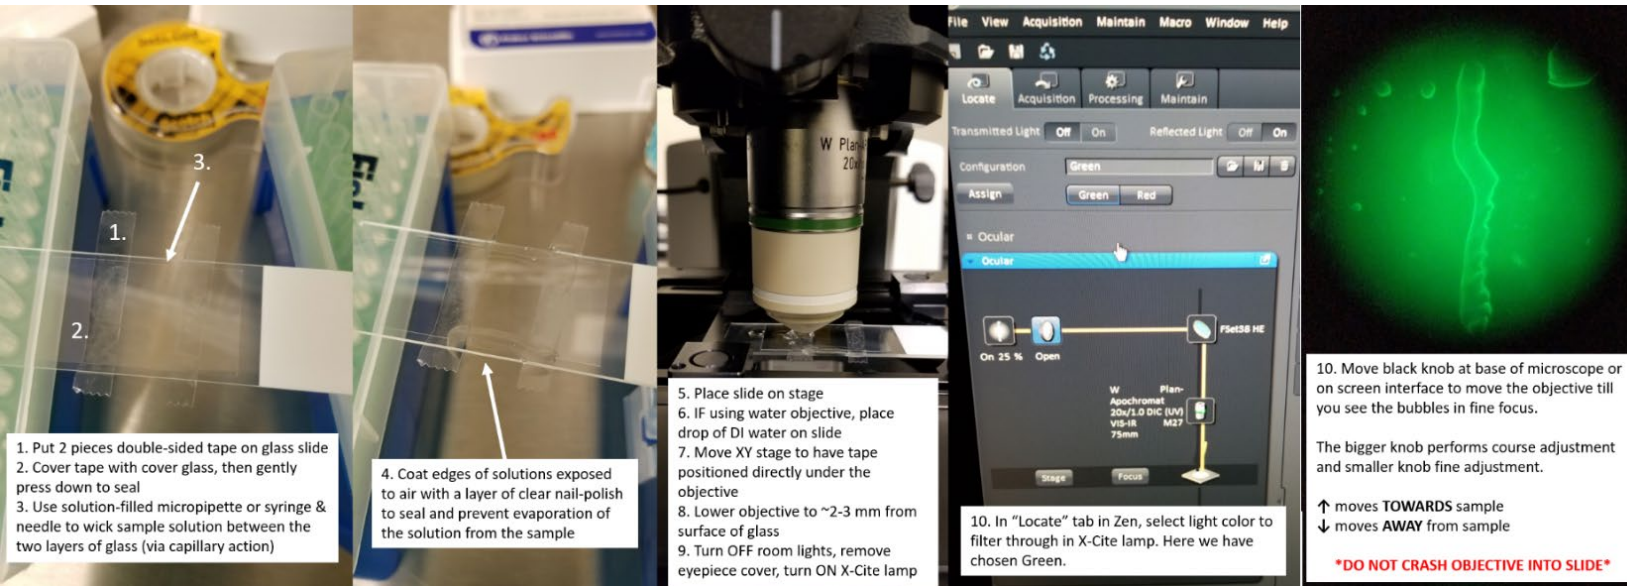

Figure 10: Manually Finding Focus
- ii. Making test sample slide & finding focus (see Figure 10 below for step-by-step instructions)